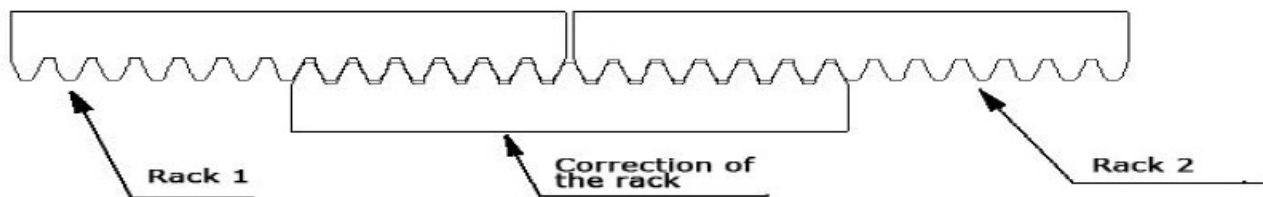

Fig 2
2. Rack is usually unit assembly, in order to avoid gate run jitter or jammed, rack and joint clearance must be corrected. Suggest use this way, see fig 2. With a small correction of the rack after connecting right with racks 1 and racks 2 ,then fixed racks 1 and 2.